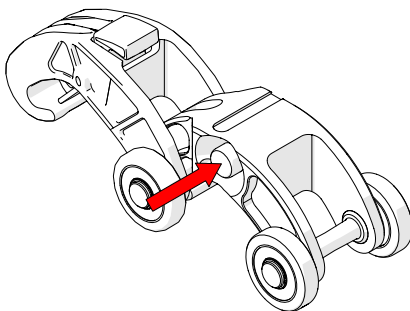

Fig. 74 - Press button
1. Press the button on the side of the dovetail QuickLink (Fig. 74).